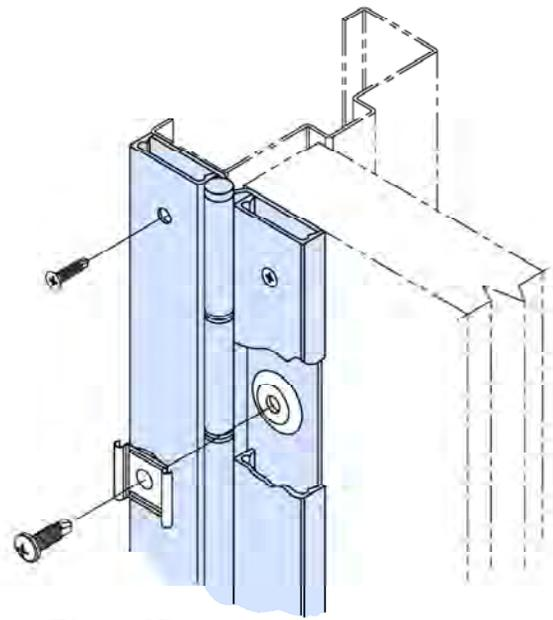

Fig. 2
- C. After the top and bottom screws are installed, drill and fasten the balance of the holes. Install at least five cover clips by passing a screw through the clip, hinge leaf and frame (Fig. 2).